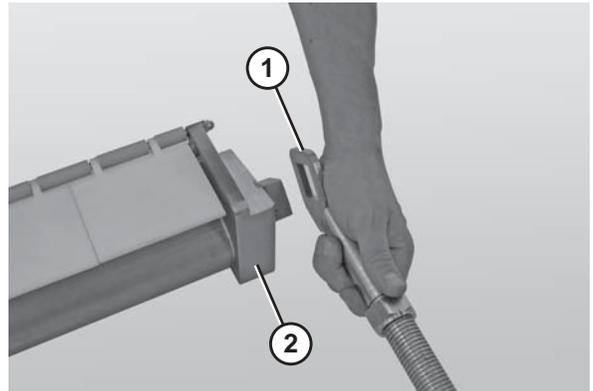

Figure 70
3. Slide the nose bar shafts (Figure 70, item 1) off of the nose bar weldment (Figure 70, item 2).